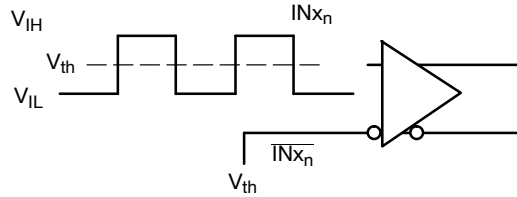

Figure 5. Differential Input Driven Single-Ended
DIFFERENTIAL INPUT DRIVEN SINGLE-ENDED (Note 6) (Figures 5 and 6)
8. Differential 50% duty cycle at $V_{INPPmin}$ clock source. Outputs evaluated with 50 Ω resistors to $V_{TT} = V_{CC} - 2.0$ V (See Figure 16). Input crosspoint to output crosspoint for INxn/INxn to Qx, Qx; 50% input to output crosspoint for SELx to Qx, Qx. See Figures 5, 10 and 11.